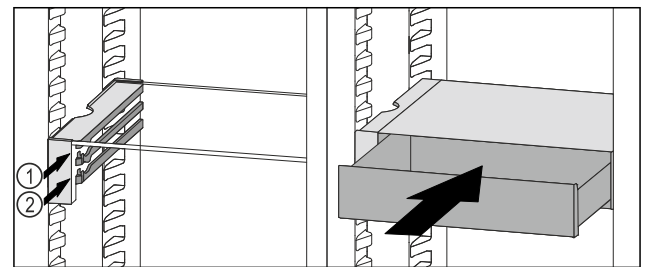

Fig. 132
- ▶ Place the VarioSafe drawer behind the stoppers on desired rib Fig. 132 (1) or Fig. 132 (2).